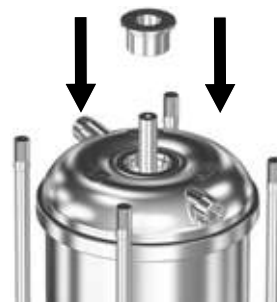
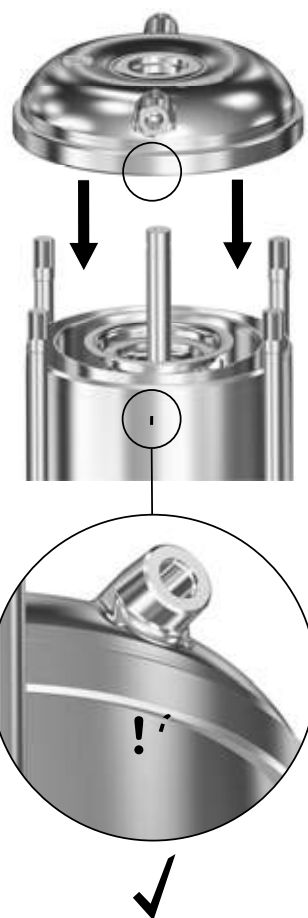

Fig. 5 Fitting service tool J in the pump head cover (2).
Fig. 6 Aligning pump head cover (2) and sleeve (55)
5. Lubricate and install a new o-ring (37) in the pump head cover. See 7.2 *Lubricants*.
6. CR pumps only: Install the four screws (2d) and the brackets (2c) in the pump head cover (2). See section 7.1 *Torques*.
7. Install the outlet part (44a) in the pump head cover (2).
8. Install the pump head cover (2) on the sleeve (55). Use service tool J to centre the chamber stack in the pump-head cover (2). See fig. 5. Note: Make sure to align the pump head cover (2) according to the alignment marks on the pump head cover (2) and on the sleeve (55). See fig. 6.